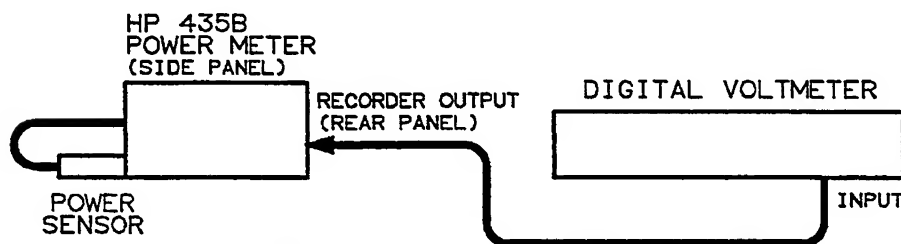

Figure 5-4. Power Meter Adjustment Setup with 50 $\Omega$  Power Sensor
4. Remove the right side cover of the power meter and connect the equipment as shown in Figure 5-4.
5. Set the LINE switch to (ON).